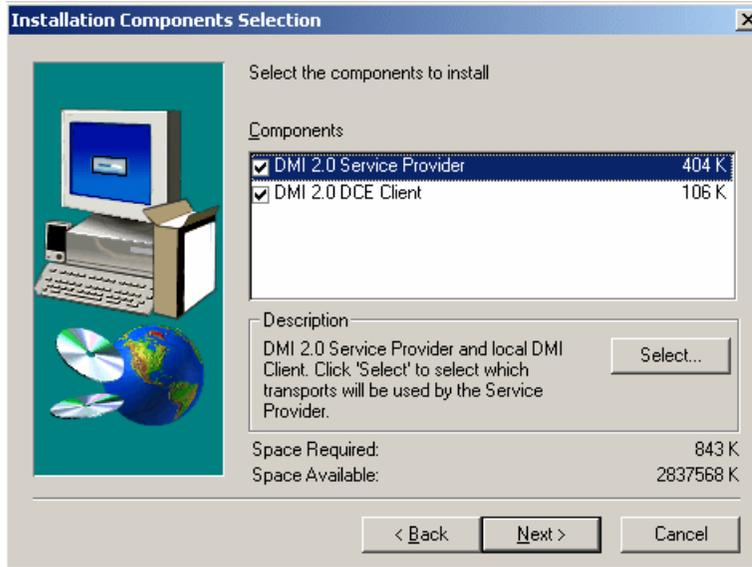

Figure 3-10 Install Components section
3. Click **Next** to be presented with check boxes for DMI 2.0 Service Provider and DMI 2.0 DCE Client. Check the boxes as shown in Figure 3-10: